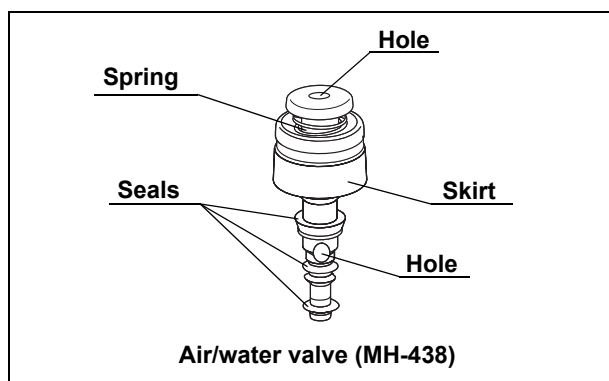

Figure 3.5
Confirm that the top hole of the air/water valve is not blocked (see Figure 3.5). If the hole is blocked, air is fed continuously and patient pain, bleeding and/or perforation can result.
1. Confirm that the holes of the valves are not blocked (see Figures 3.5 and 3.6).
2. Confirm that the valves are not deformed or cracked (see Figures 3.5 and 3.6).
3. Check for excessive scratching or tears in the air/water valve's seals (see Figure 3.5).